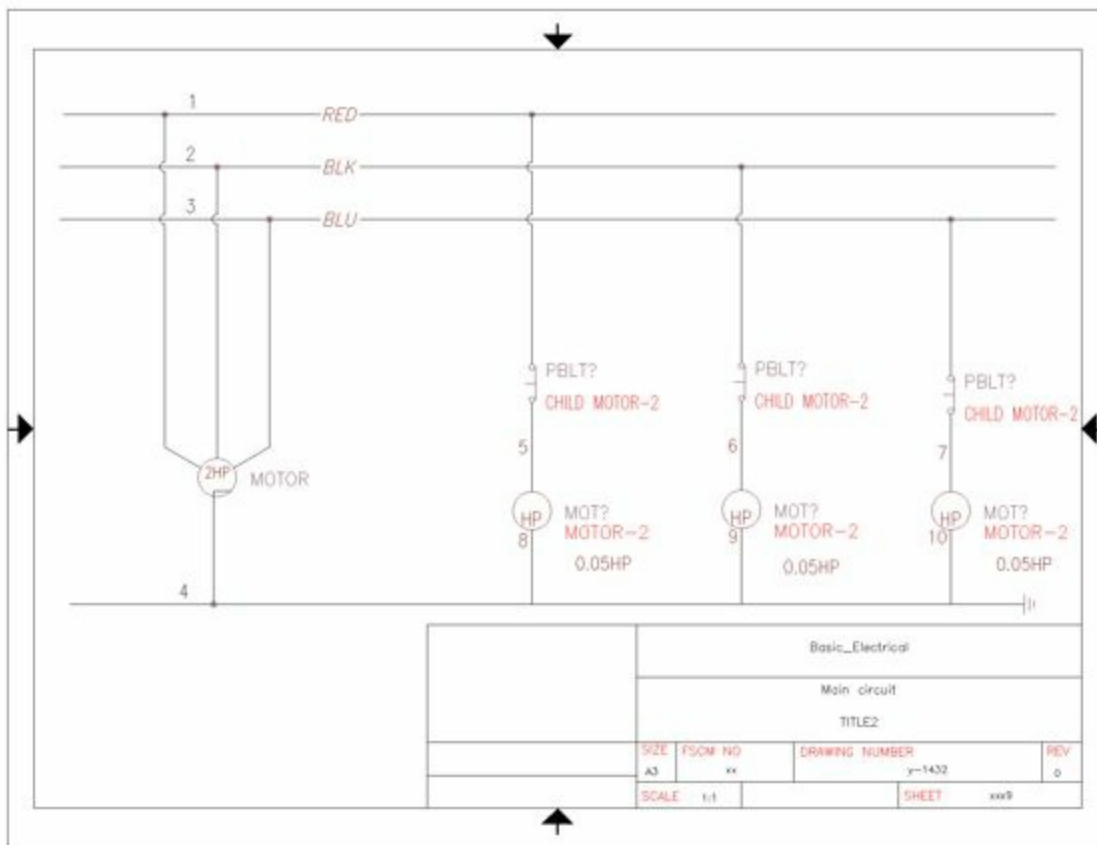

Figure-76. Practical-Model
- After adding all the components, the drawing will be displayed as shown in Figure-76.